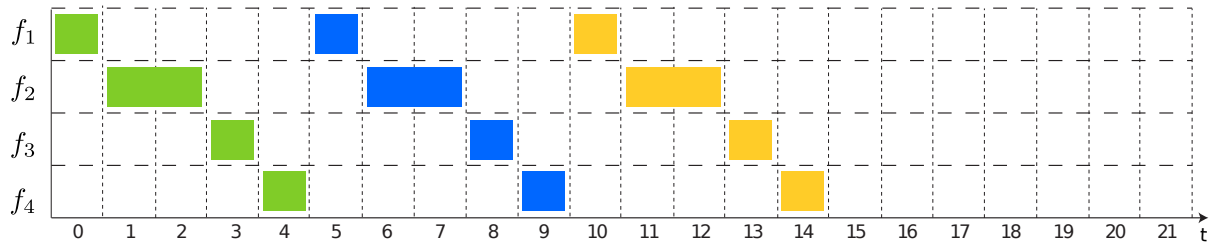

Figure 8: Pipelined Scheduling with resource constraints
- (d) (3 points) Now assume that, there are only **one** multiplier to compute  $f_2$  and **one** adder to compute  $f_1, f_3$  or  $f_4$  available. First, depict a pipelined scheduling in Figure 8 under this resource constraint with a predefined minimal iteration interval  $P = 5$ . Then, indicate the latency  $L$  of the schedule. Draw **three** consecutive iterations, and mark different iterations clearly, e.g. with different colors, different textures, or different numbers.